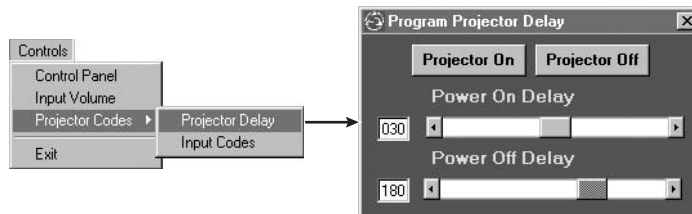

Figure 4-13 — Program Projector Delay window
5. Click *Controls > Projector Codes > Projector Delay*. The Program Projector Delay window appears (figure 4-13).